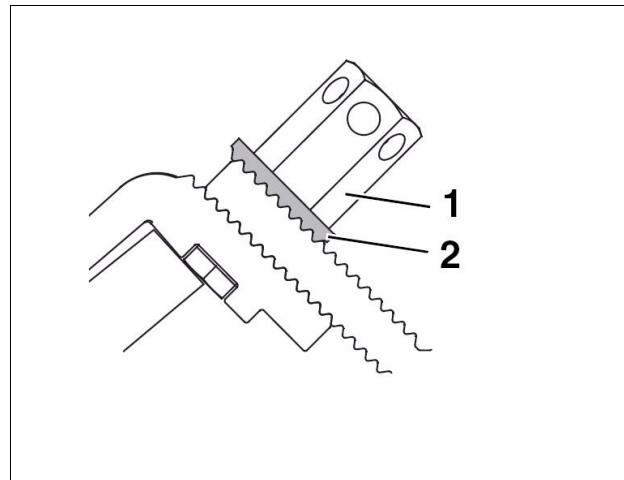

Fig. 17 Toothed washer must engage with the toothed hook when tightening the nut
- Tighten the long hex-nut (Fig. 17, [1]). To do this, insert the size 5 Allen wrench into the hole in the hex-nut and turn.